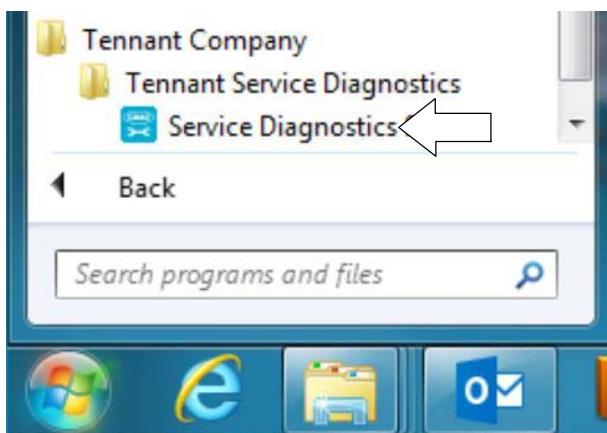

Fig. 27
For Tenant service personnel equipped with ServiceLink computers, the software is pre-installed on your computer as shown below. The software application is titled “Service Diagnostics” (Figure 27).
7. After the service application software is installed on your computer, refer to figure 27 to access the program.
5. After the application software is installed on your computer, refer to figure 27 to access the program.